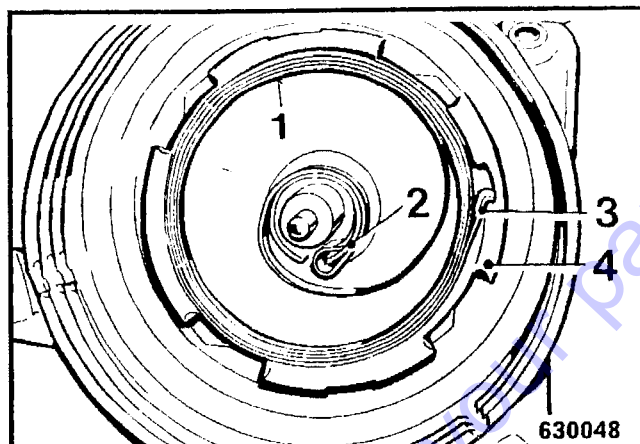

Fig. 3
- Check the recoil spring 1 (Fig. 3).
- Fasten the inner hook in the slot 2 (Fig. 3) of the bearing journal.
- Fasten the outer hook (3) on the spring cup (4).